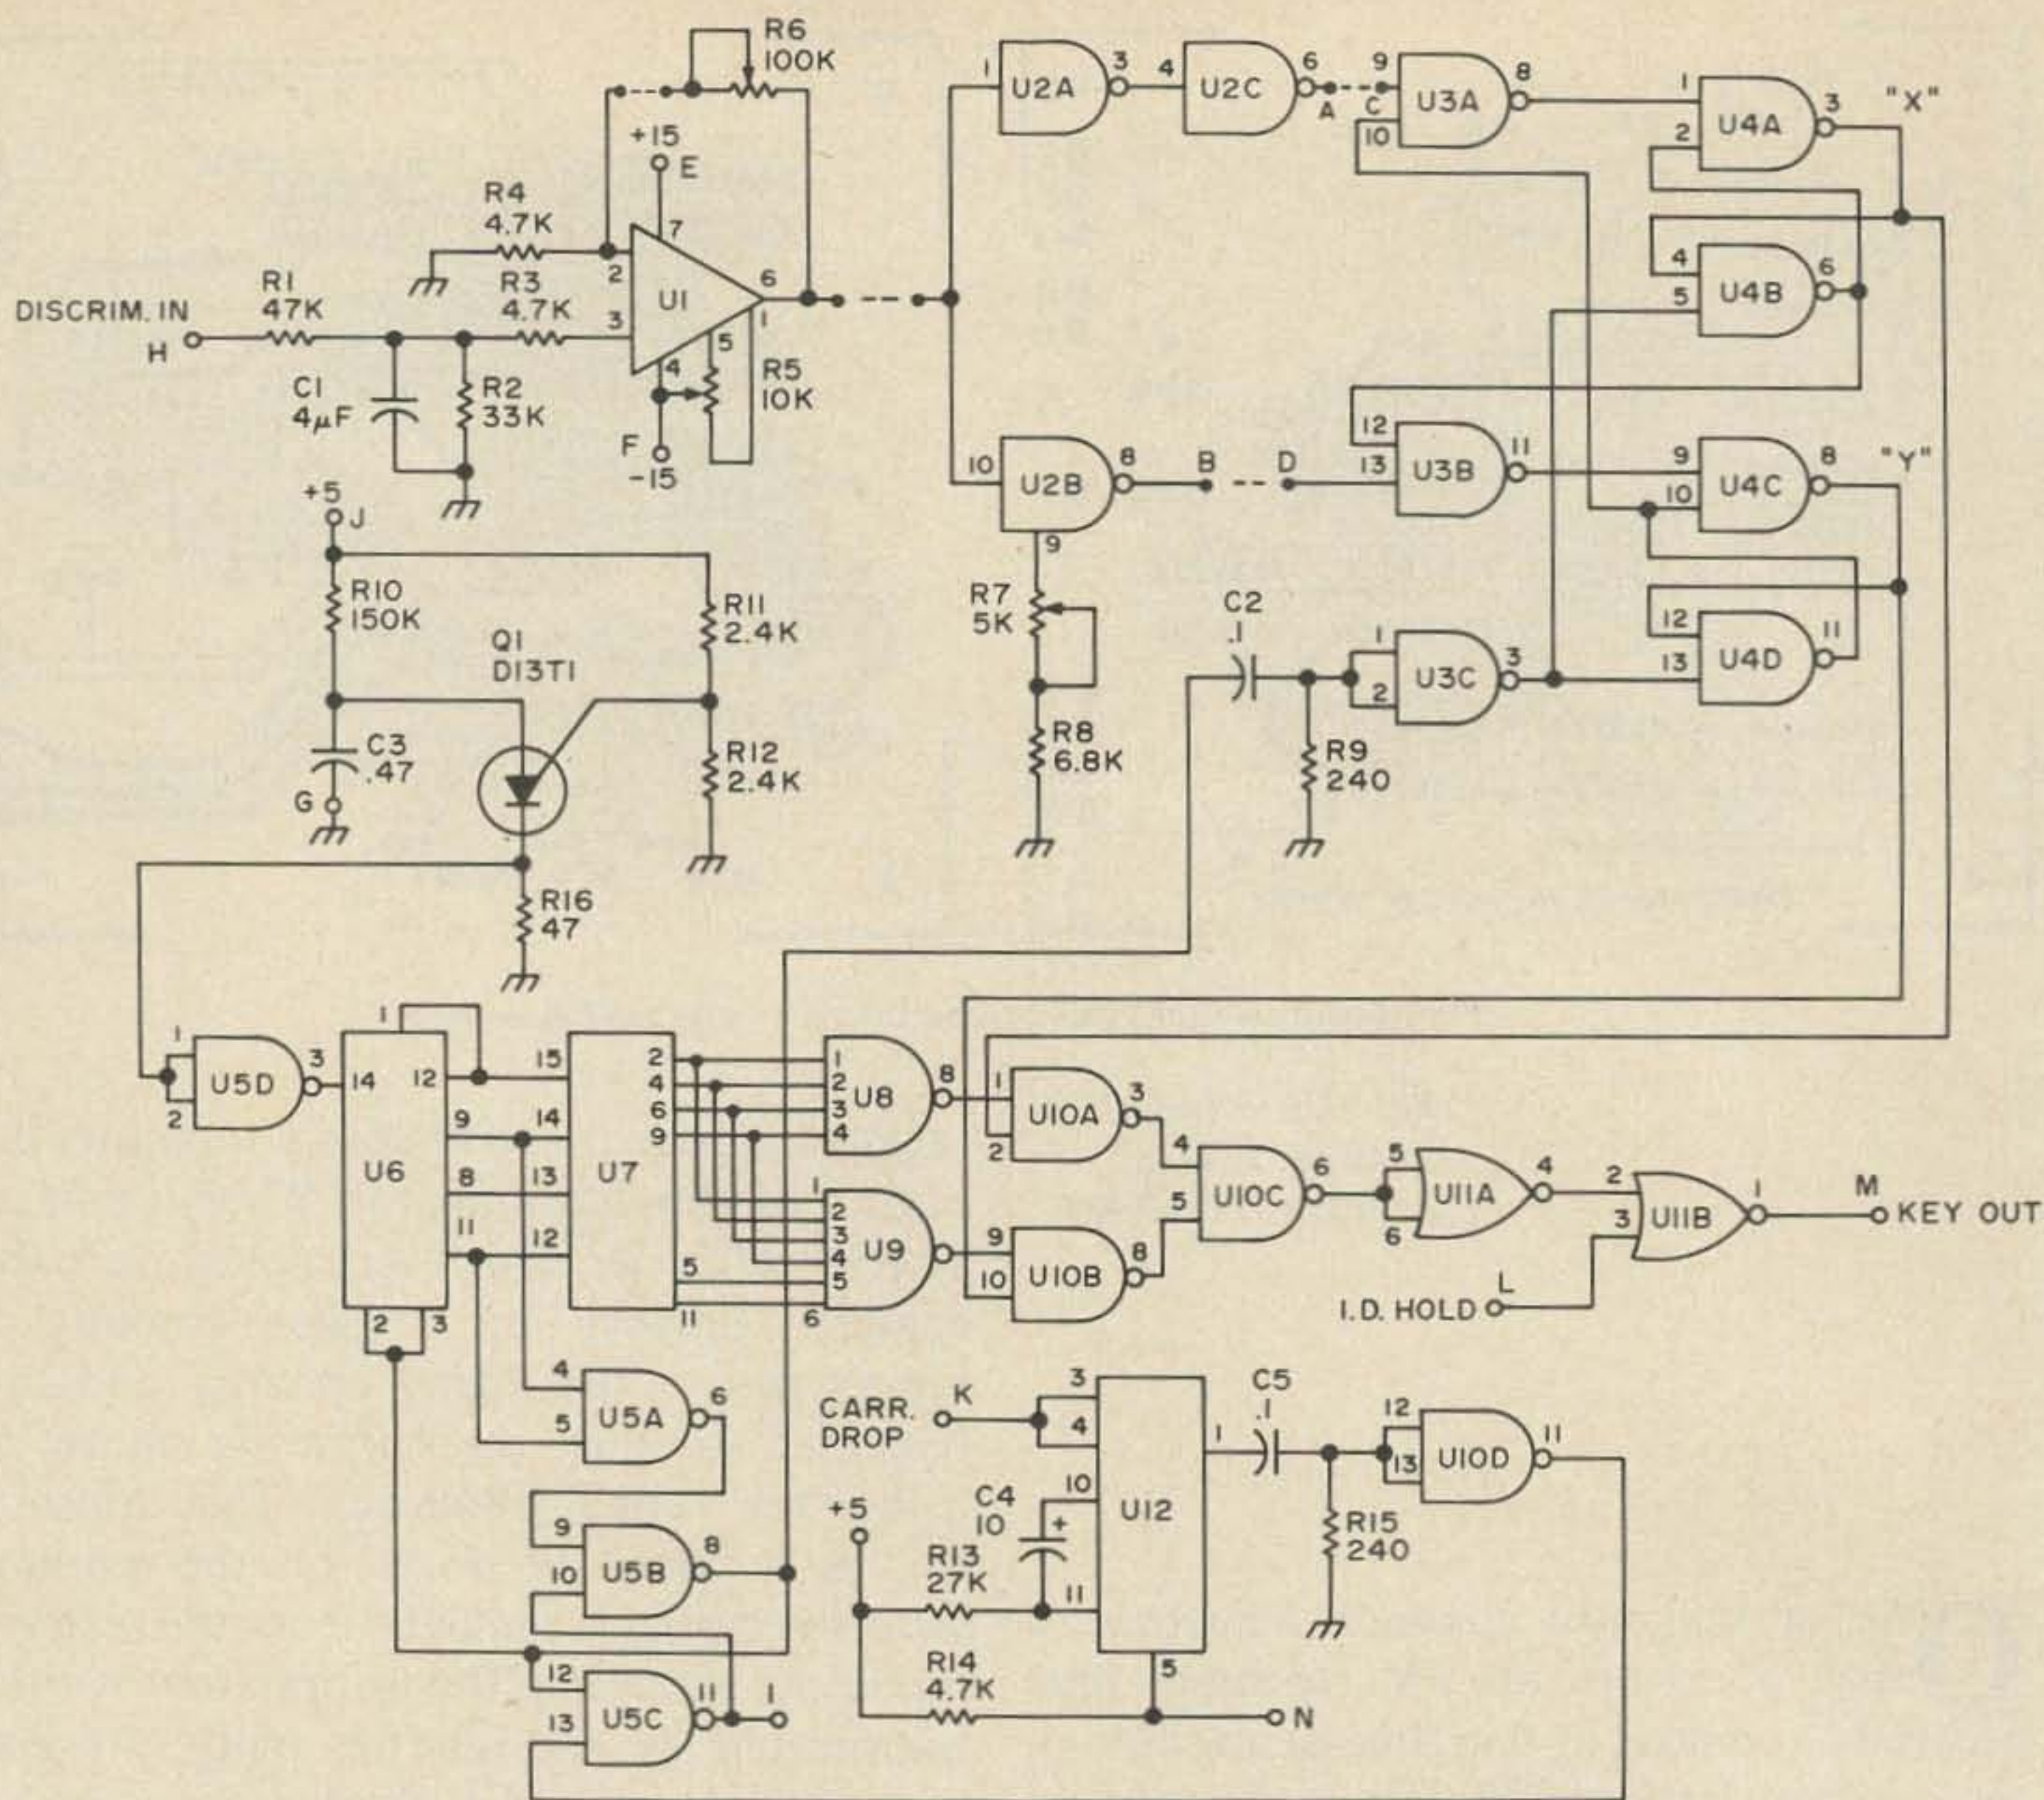

Fig. 1. Schematic of the high-low frequency monitor.
"carrier drop" signal which falls from a high (>2.4 v.) to a low (<0.8 v.) whenever a carrier is removed from the receiver input, and (2) a so-called "I.D. hold" signal which remains high during the I.D. Referring to Fig. 1, operation of the circuit is as follows: The output of the receiver discriminator is connected through R1 and R3 to the non-inverting input of U1, a 5556 op amp. (Note: The point of connection at the receiver is the same one ordinarily used for a zero-center microammeter.) The discriminator output is amplified by U1 and appears at pin 6. This bi-polar (i.e. positive and negative) signal at pin 6 is then presented to U2, pins 1 and 10. U2 is a 1489 which has four identical sections and is specifically designed to accept bi-polar signals and convert them to zero and +5 volt logic levels. Each section can be individually adjusted to
U5 through U12 comprise the readout section of the monitor. Q1, a programmable unijunction, provides the clock signal. The frequency of oscillation of Q1 can be adjusted by selecting the value of R10. The 150K, shown for R10 in Fig. 1, corresponds to a code speed of approximately 20 wpm. Incidentally, if it is convenient to use a freerunning clock signal from existing I.D. circuitry, Q1 and its associated components may be omitted and the external clock signal connected to pins 1 and 2 of U5D. Assuming, for the moment, that pins 2 and 3 of U6 are low, U6, a four bit binary counter (7493), will be clocked by the oscillator (via U5D) and U6's binary output (pins 12, 9, 8 and 11) will address the inputs of U7, a one of ten decoder (7442). The outputs of U7 are connected to U8 and U9 in such a manner as to program (in Morse code) an H from U8 and an L from U9. The two outputs of U8 and U9 are gated through U10A and U10B, respectively. Point X, as previously discussed, when high, indicates a signal on the high side of the window. Point X connected to pin 2 of U10A, therefore, will permit the H to pass when it is high and Point Y, connected to pin 10 of U10B, will permit the L to pass when it is high. Whichever signal is permitted to pass is then routed through U10C, U11A and U11B. The purpose of U11B is to permit inhibiting any
Point I in Fig. 1 is provided for those repeaters which do not employ any transmitter drop-out delay and can be used with existing control circuitry to ensure that the transmitter is held on for the duration of the readout sequence (approximately 1 second).
Disconnect the variable voltage source from pins 1 and 10 of U2 and reconnect the jumper between pin 6 of U1 and pins 1 and 10 of U2. Set R6 to about mid-range and verify that there is a jumper between pin 2 of U1 and the end of R6 as shown in Fig. 1. Connect the $\pm 15V$ supply to the frequency monitor, ground point H and monitor pin 6 of U1 with a voltmeter. Adjust R5 for zero (off-set) voltage indication of the voltmeter. This adjustment, like the previous one, is made once and then left alone. Remove the ground from point H, connect the 5V and the $\pm 15V$ supplies to the monitor and attach the variable voltage source to point H. For this step the voltage applied to point H should be variable in the range of 0 to $\pm 0.2V$. While varying the voltage to point H, monitor the voltage at pin 6 of U1. Pin 6 should follow the polarity of the input
The connections between U2 and U3 shown in Fig. 1 (i.e. A to C and B to D) are to be used if a positive output from the receiver discriminator indicates a signal on the high frequency side of center frequency. If, however, the discriminator produces a negative output for a high frequency signal, these connections will have to be transposed so that A connects to D and B connects to C. (The PC board available provides convenient pads to facilitate these changes).